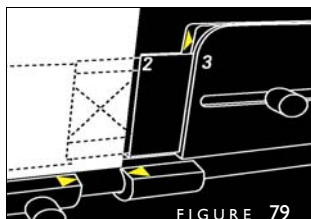

FIGURE 79
5. Bring the lever upright to unclamp your cover. Lean over the top of the Centering Guide to see the yellow arrows on the back side of the Book Thickness Rings. Slide your cover over so its right edge lines up with **the point** of the right arrow (Figure 79). Push the Lever to the left to score — you have just made your rear spine edge score.